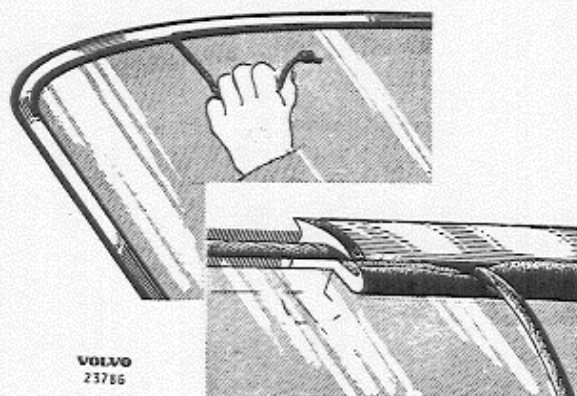

Fig. 48. Fitting the trim moulding
2. Push the ridge in the trim moulding and then pull out the cord whereby the edges of the rubber moulding creep up over the edge of the trim moulding. See Fig. 48.